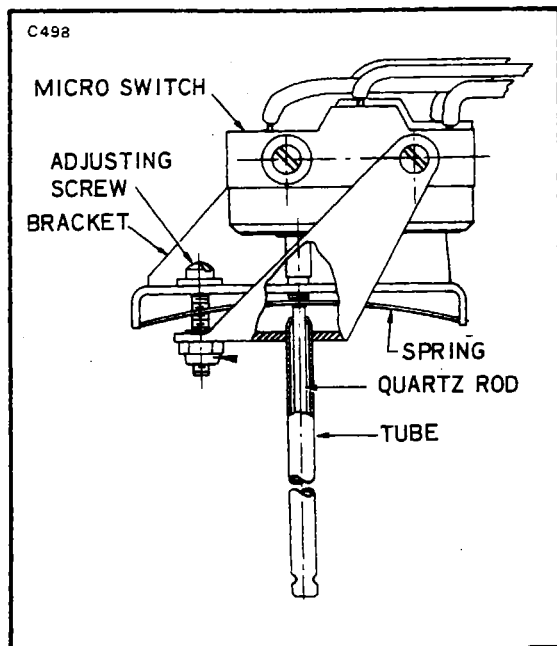

Figure 13-14. Flame Detector Switch
- b. Back off the adjusting screw until the switch clicks. (Refer to Figure 13-14.)